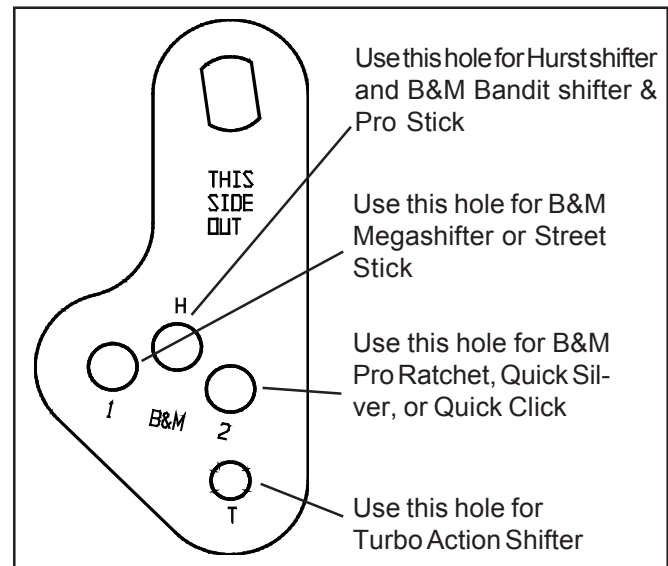

Figure 2
STEP 11. Move the transmission selector lever by hand to full rear position (Low). Place the shifter lever to the full rear position (Low gear with a forward pattern valve body). Adjust the large nuts on the cable so that the swivel will slide into the hole in the selector lever that is correct for your shifter (**See Figure 2**). Tighten the large nuts completely. Be sure that the swivel will slide freely in and out of the hole in the selector lever. **Note:** The shifter will not operate correctly unless the correct hole for your shifter in the shift lever is used. Leave the swivel out of the hole and move the selector lever to Park, all the way forward. Also move the shifter to the Park position (all the way forward). Reinsert the swivel into the hole in the selector lever. Check to see that the swivel will slide freely in and out of the rear hole in the selector lever in this position. If it does slip in freely, adjust the swivel slightly until it will slip into the hole in the lever. Move the shifter back to the Low gear position and check that the swivel will still slide easily in